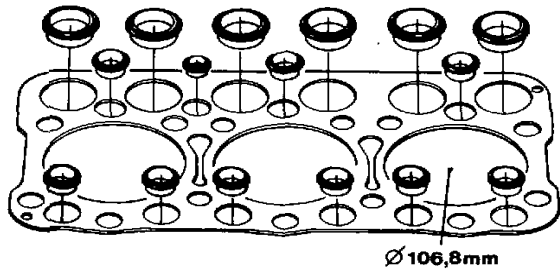

Fig. 48. Cylinder head gasket, 60 series
**60 series:** Check that the correct cylinder head gaskets are being used. It is possible that the gaskets for the earlier 50 series can be confused with those for the 60 series. Check therefore that the diameter for the bores are 106.8 mm (4.205"). (The equivalent diameters in the gaskets for the 50 series are 104.6 mm = 4.118"). The correct gasket set has also 16 seals for each cylinder head (fig. 48).